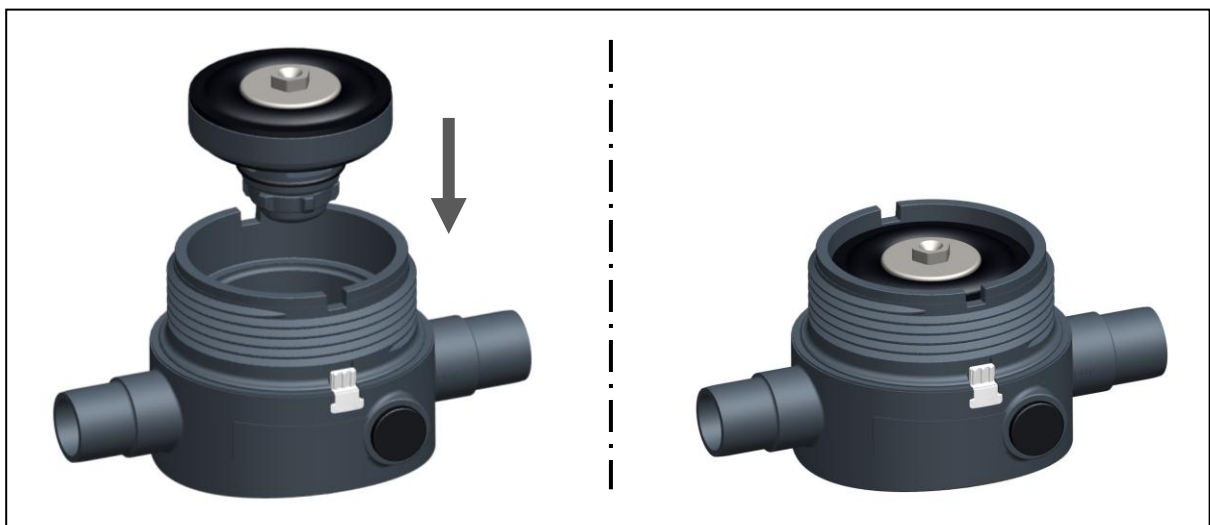

Fig. 12
- Position the cartridge in the base part and push in, see Fig. 12